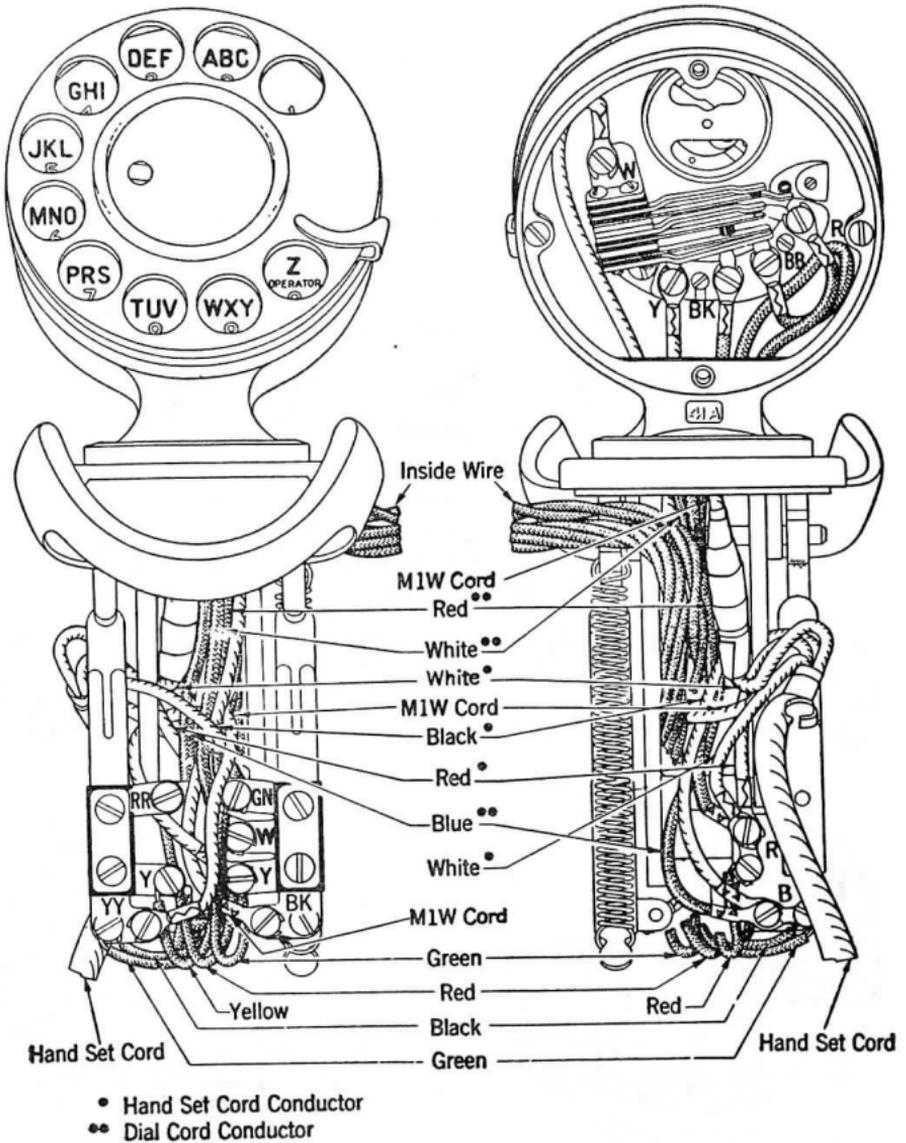

Fig. 3—G2 Type Hand Set Mounting (Dial)
2.03 The G2 Type Hand Set Mounting for dial stations is corded as shown on Fig. 3.